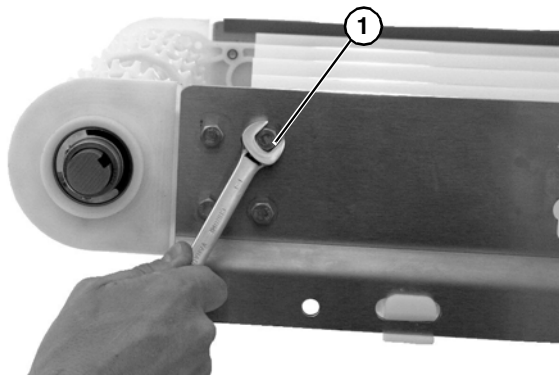

Figure 56
4. Remove the four head plate bolts (**Figure 56, item 1**) on both sides of the conveyor.